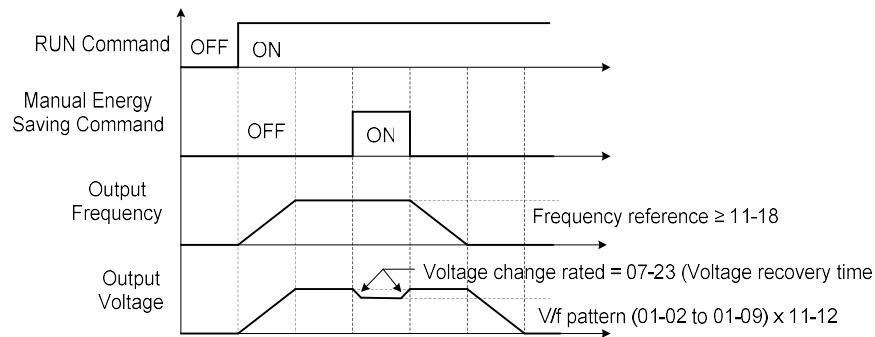

Figure 4.3.115 Manual Energy Saving Operation.
- (1) Manual Energy Saving Gain (11-12)
- (2) Manual Energy Saving Frequency (11-18)
- When the reference frequency exceeds 11-18 and the motor speed is within the allowable range, the manual energy saving command is activated. Refer to Figure 4.3.115 Manual Energy Saving Operation.